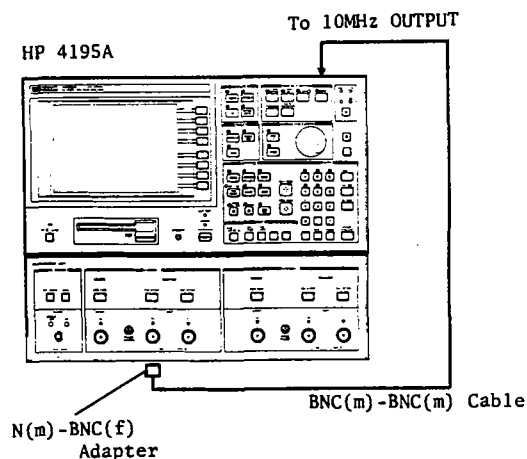

Figure 2-2. RES BW Accuracy Test Set up
2. Connect the BNC(m)-BNC(m) Cable to the HP 4195A INPUT R1 from its rear panel 10 MHz OUTPUT, as shown in Figure 2-2.